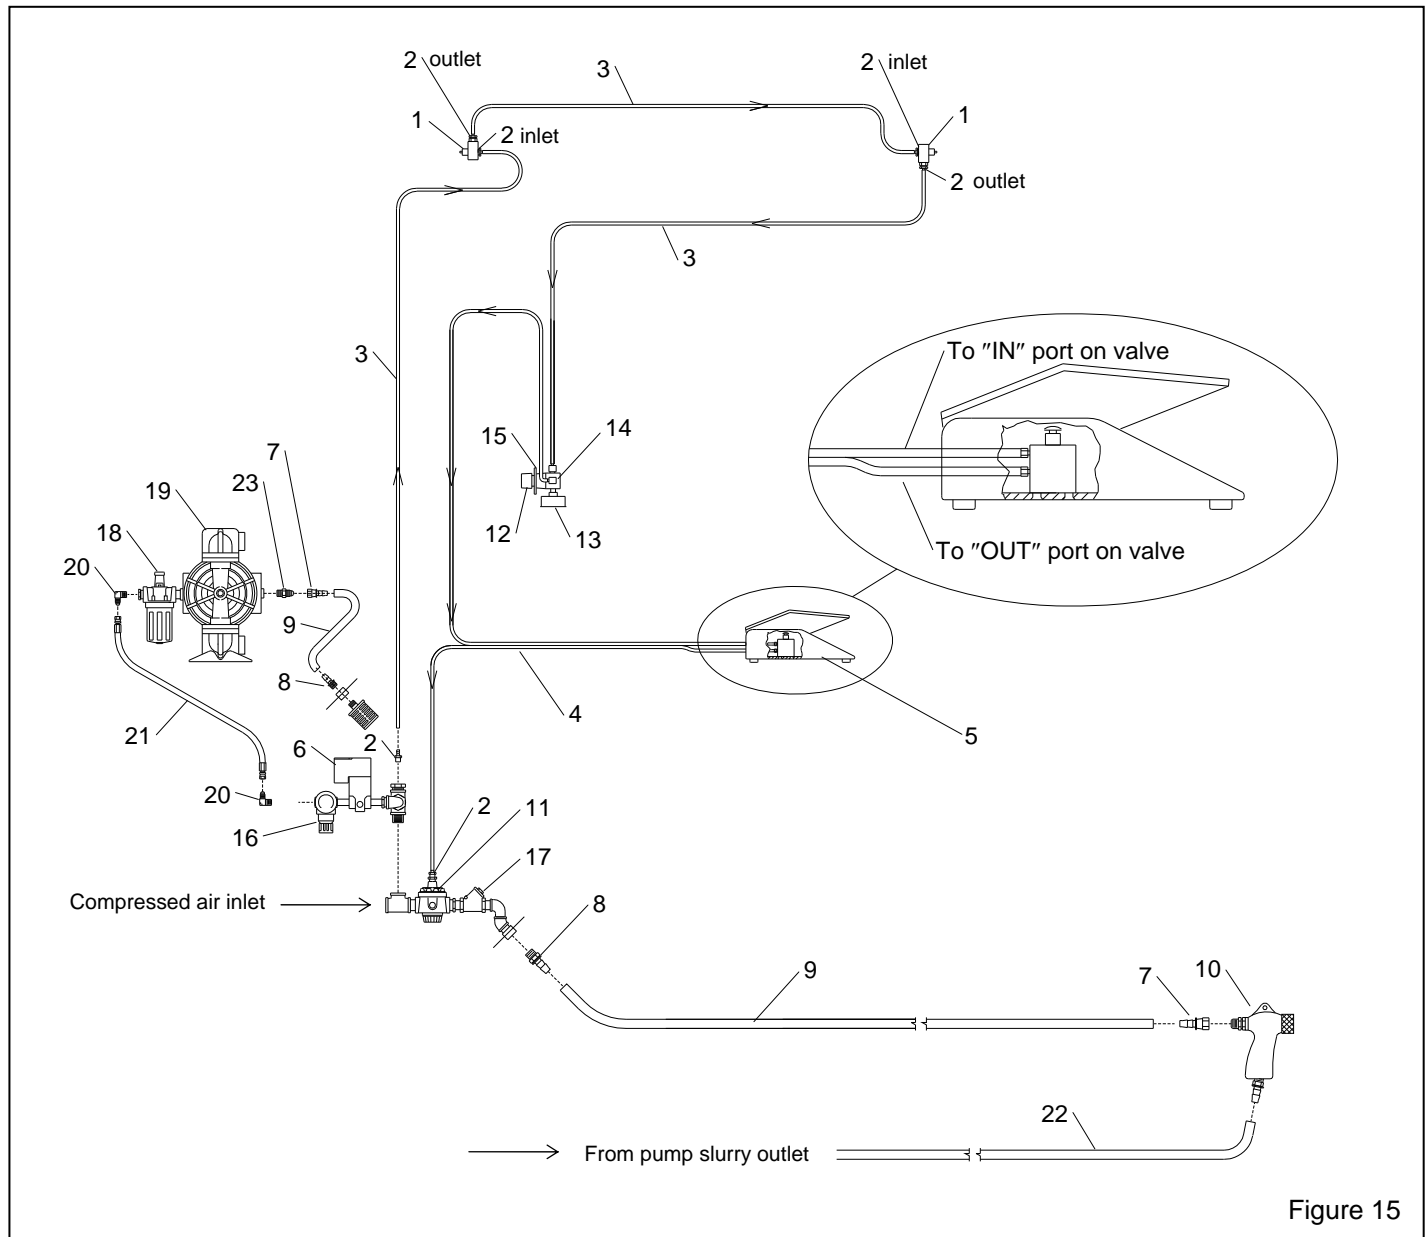

Figure 15
**7.4.4** Make sure lines are not reversed on the foot pedal or pilot regulator. Refer to the air plumbing schematic in Figure 15.
8.2 Air Plumbing Schematic, Figure 15